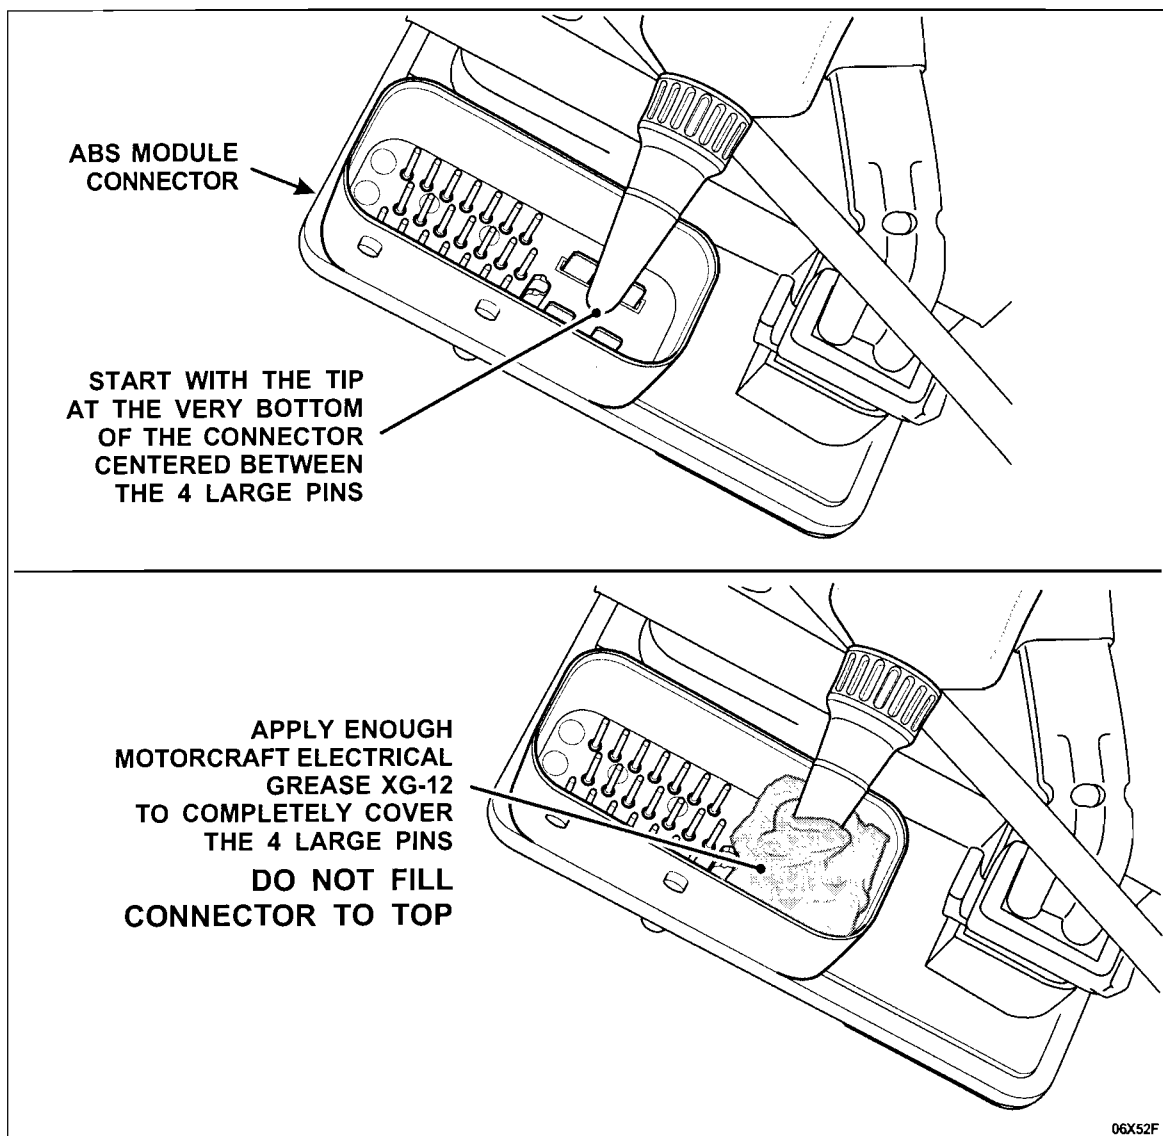

FIGURE 6
- b) Use ONLY Motorcraft Electrical Grease XG-12. See Figure 6.
- With the tip of the applicator tube snipped off, position the end of the tip between the 4 large flat pins at the bottom of the ABS module connector. Squeeze out enough grease to completely cover the 4 flat pins. See Figure 6. DO NOT spread the grease around the connector. Applying an excess amount of grease into the connector cavity will cause a "hydro lock" condition in which the connector will not be able to be seated fully or locked in place.